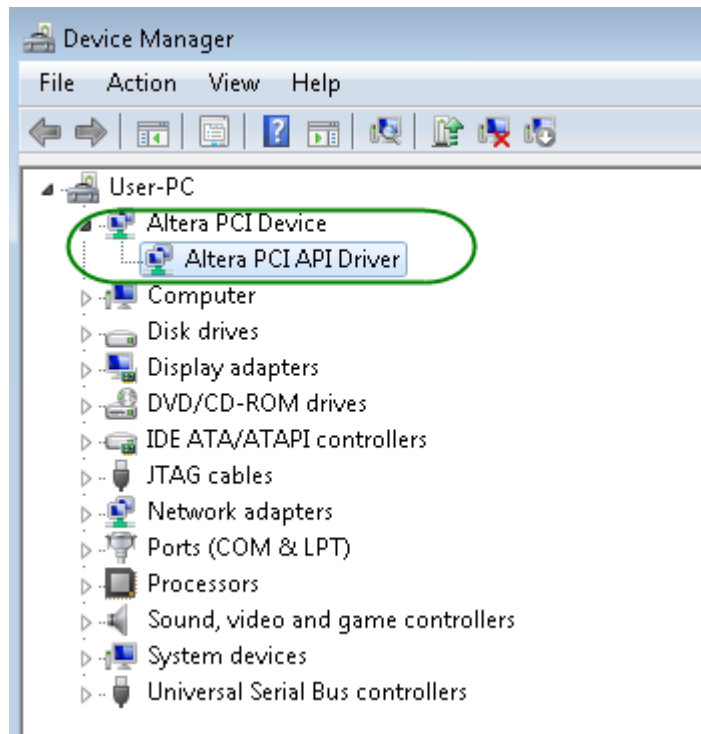

Figure 1-10 Screenshot for PCIe Driver
5. Make sure the Windows has detected the FPGA Board by checking the Windows Control panel as shown in **Figure 1-10**.